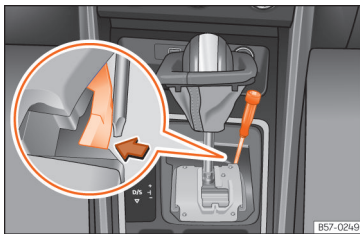

Fig. 92 Selector lever: manual release from position P.
- Using the flat part of a screwdriver, press the yellow tab sideways and keep it pressed down  **Fig. 92.**